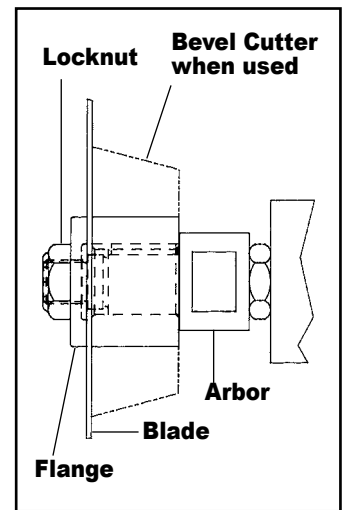

FIG. 3
- b. Long Arbor (for cutting & beveling PVC) - Install the bevel cutter (small edge toward motor) or the arbor spacer (for cutting only) over the key on the arbor. Install the blade on the 5/8 diameter arbor shoulder (Fig. 3). Install the flange with the relieved side toward the blade and screw on the locknut. While holding a wrench (supplied) on the 7/8 arbor flats, tighten the arbor locknut. The blade must seat fully on the arbor shoulder and flush against the bevel cutter or arbor spacer.